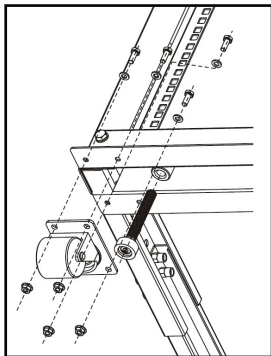

Figure 8
2. Tighten each one of the **Leveling Feet** by hand, or with a **14 mm Wrench**. (Figure 8)
3. Thread four **M6 Flange Nuts** onto the **M6 Screws**. (Figure 8)